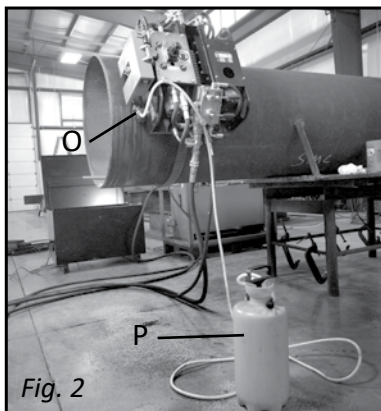

Fig. 2
3. Connect the Mist Lubrication System Hose (O, Fig. 2) to the Coolant Container (P). Use a synthetic coolant oil type BIO/42 EP or similar.